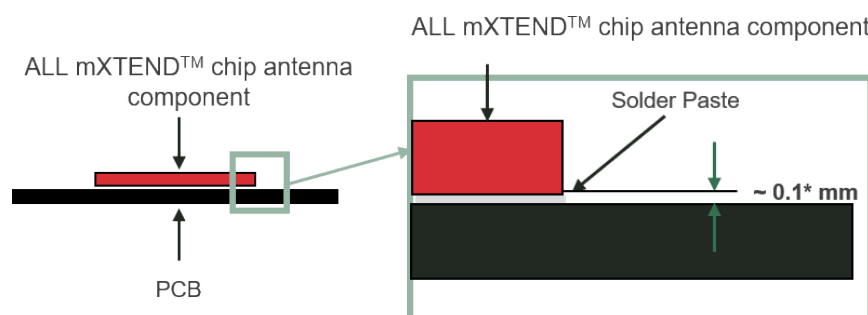
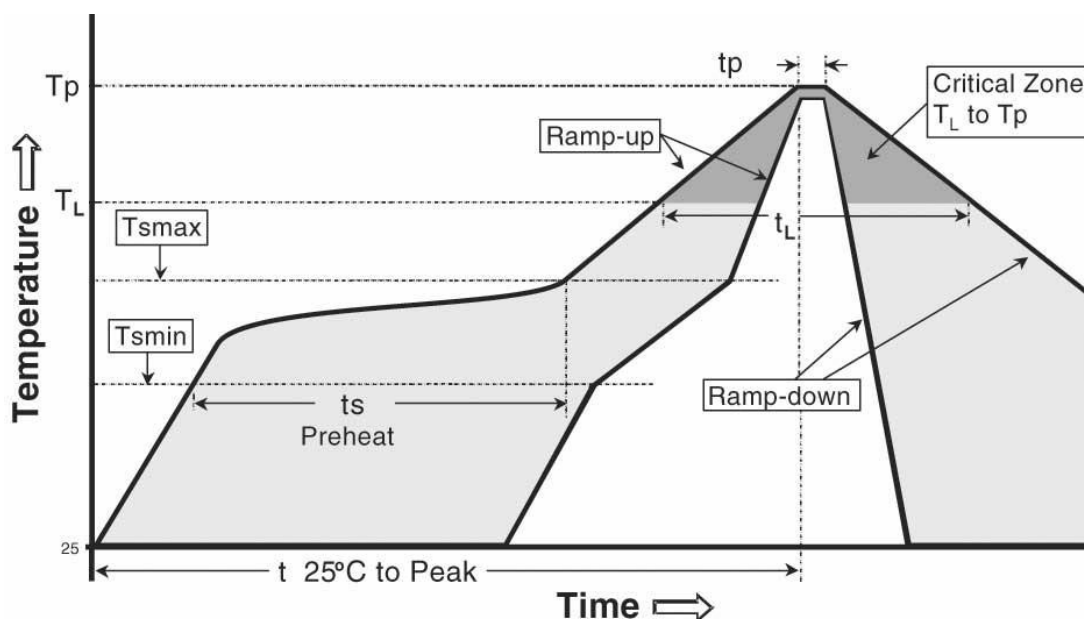

Figure 5 – Soldering Details.
Figure 6 – Temperature profile.
2. Perform a reflow process according to the temperature profile detailed in Table 4, Figure 5 and Figure 6.